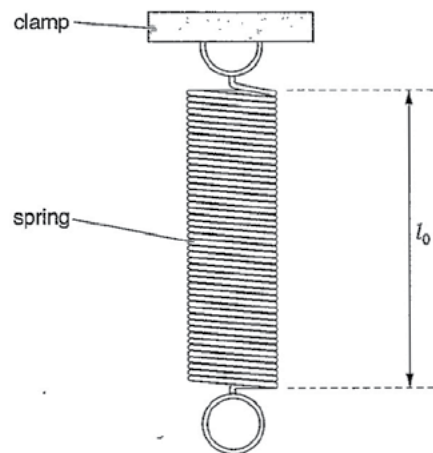

Fig. 1.1
The apparatus is shown in Fig. 1.1.
- (a) On Fig. 1.1, measure the unstretched length l_0 of the spring. Record l_0 in the first row of Table 1.1. [1]